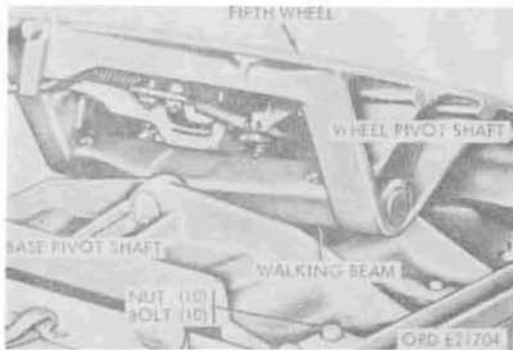
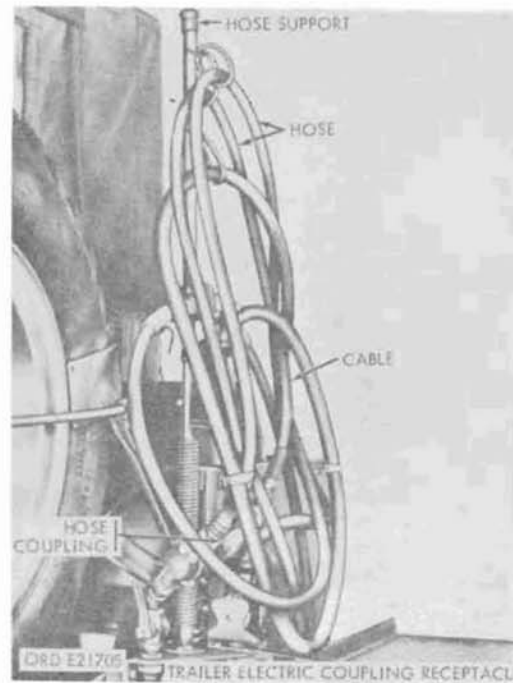
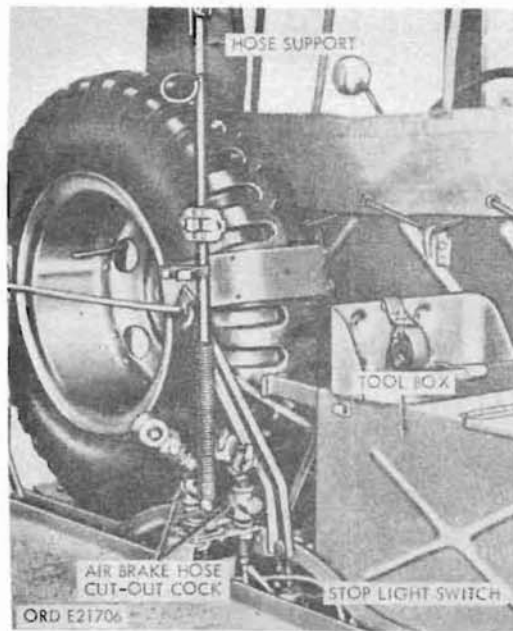

Figure 269. Fifth wheel assembly
Figure 270. Air brake hose and trailer connector electrical cable stowed on airbrake hose support
Figure 271. Brake system connections
a. Description. M48, M275 and M275A1 differ only in length of chassis and the absence of a toolbox and spare wheel carrier on the M275 and M275A1. Each truck is equipped with a fifth wheel (fig. 269) mounted on a chassis frame. Deck plates are provided as an access platform in front of the fifth wheel. Skid plates are provided for convenience of attaching or removing the semitrailer and are riveted to the frame sidemembers behind the fifth wheel. An airbrake hose support (fig. 270) is mounted on a bracket behind the cab on the M275 and M275A1 and to the rear of the spare wheel carrier and toolbox on the M48. The airbrake hand-control valve is mounted on the steering column on both vehicles. Connections for the electricity and the air for operation of semitrailer lights and brakes are mounted on the hose support mounting frame. An air stoplight switch (fig. 271) is mounted below the air hose support. The fuel tank on the M275 and M275A1 truck differs in size and shape from the rest of the trucks, and is mounted under the left-hand side of the cab.
243. Fifth Wheel (Fig. 269)
244. Trailer Connector Electrical Cable (Fig. 270)
245. Airbrake Cutoff Cocks and Couplings (Fig. 271)
246. Airbrake Hose (Fig. 270)